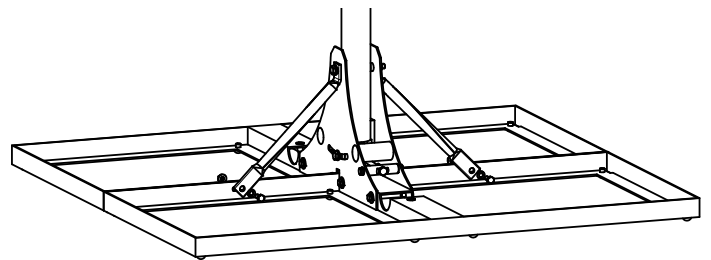

Fig. 5: Attaching the stabilising legs (2)
6. Attach the lower part of the stabilising legs using the M8 x 20 screws with a torque of 23 Nm (Fig. 5).